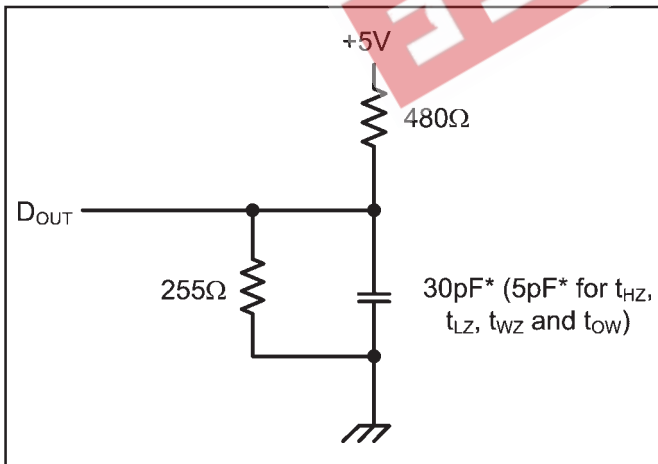

Figure 1. Output Load
- 7. Transition is measured $\pm 200mV$ from steady state voltage prior to change with specified loading in Figure 1. This parameter is sampled and not 100% tested.
12. Transition is measured $\pm 200\text{mV}$ from steady state voltage prior to change with specified loading in Figure 1. This parameter is sampled and not 100% tested.
Output Load	See Figures 1 and 2